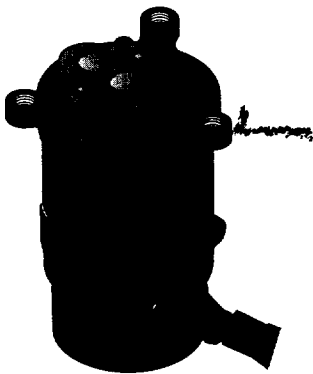

Figure 18
5. Draw a line down the side of the pump with a marker to help alignment during reassembly. Mark the pump from the motor to the base volute (see Figure 18).